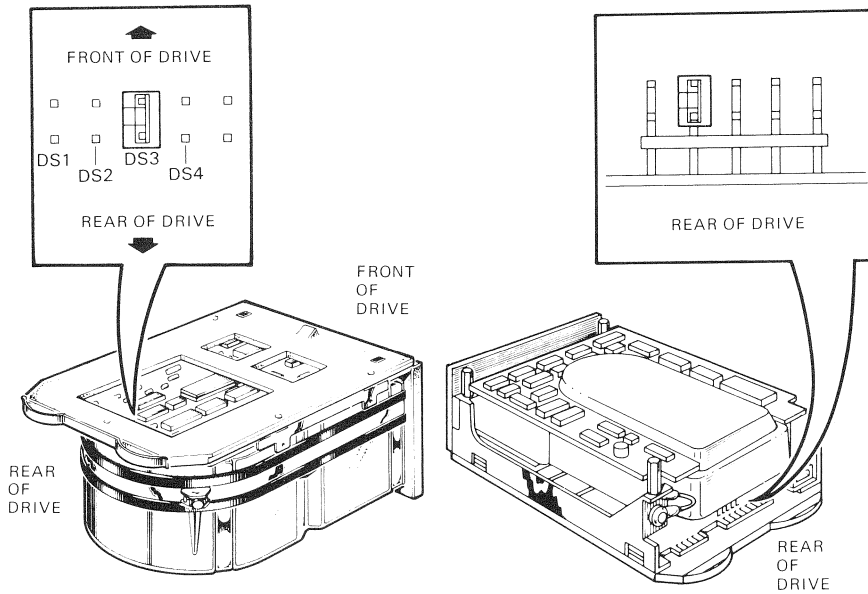

Figure 8-6 RD52 Jumper Clip Setting
- To configure an RD52 drive as DU0 (installed in port 0), make sure the jumper clip is set at DS3 (Figure 8-6). To configure an internal RD52 drive as DU1 (installed in port 1), place the jumper clip on DS4. Refer to Sections 5.3 and 5.5 for further information.